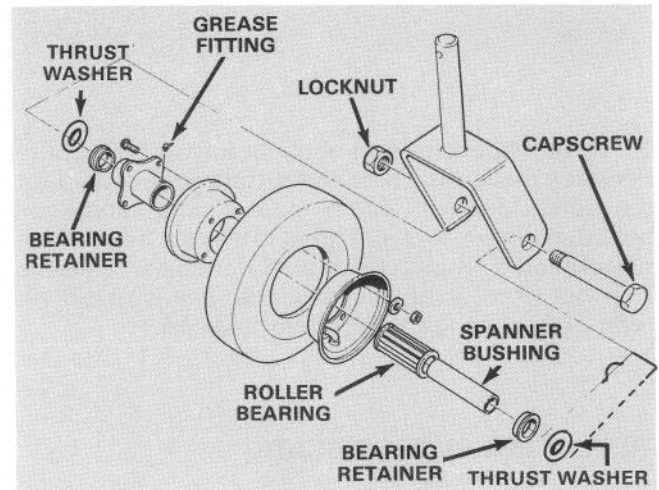

Figure 20
1. Remove locknut from capscrew holding castor wheel assembly between castor fork (Fig. 20). Grasp castor wheel and slide capscrew out of fork.
Note: Account for the two thrust washers (Fig. 20).
2. Tip wheel to the side and allow spanner bushing to fall out (Fig. 20).